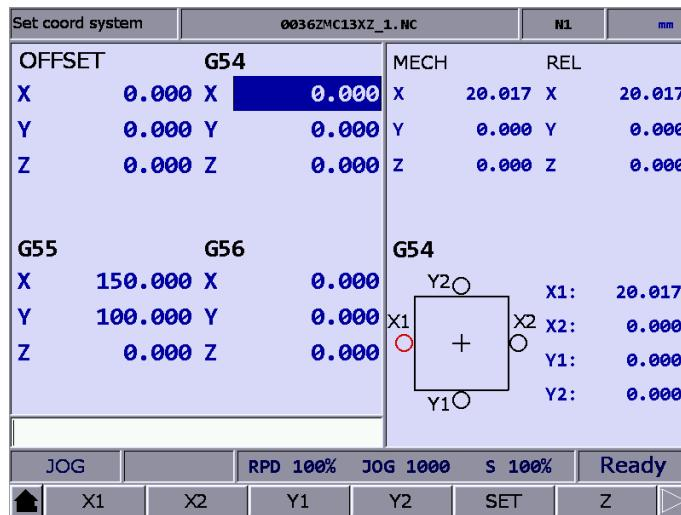

Figure 8.1.1.1
- (1) Set the system to JOG or MPG mode and move the machine axis to the initial contact point of the workpiece in X-axis direction.
- (2) Press **OFS** to enter the OFS screen.
- (3) Press **COORD** to display the corresponding function bar.
- (4) Press **AUTO** to display the corresponding function bar.
- (5) Press **↑**, **↓**, **←**, and **→** to move the cursor to the X-coordinate field of a specific coordinate system.
- (6) Press **SET L/2** to enter its setting screen.
- (7) Press **X1** and the circle on the left side of the rectangle becomes red, as shown in Figure 8.1.1.1, meaning the machine coordinates of the first point is recorded.
- (8) Continue to move the machine axis to the other contact point of the workpiece in X-axis direction.
- (9) Press **X2** and the circle labeled as X2 in Figure 8.1.1.1 becomes red, meaning the machine coordinates of the second point is recorded.
- (10) Press **SET** and the system automatically calculates the central point between the machine origin and the workpiece position in X-axis direction and sets this point as the center of X axis in the coordinate system, which is the workpiece origin of X axis.